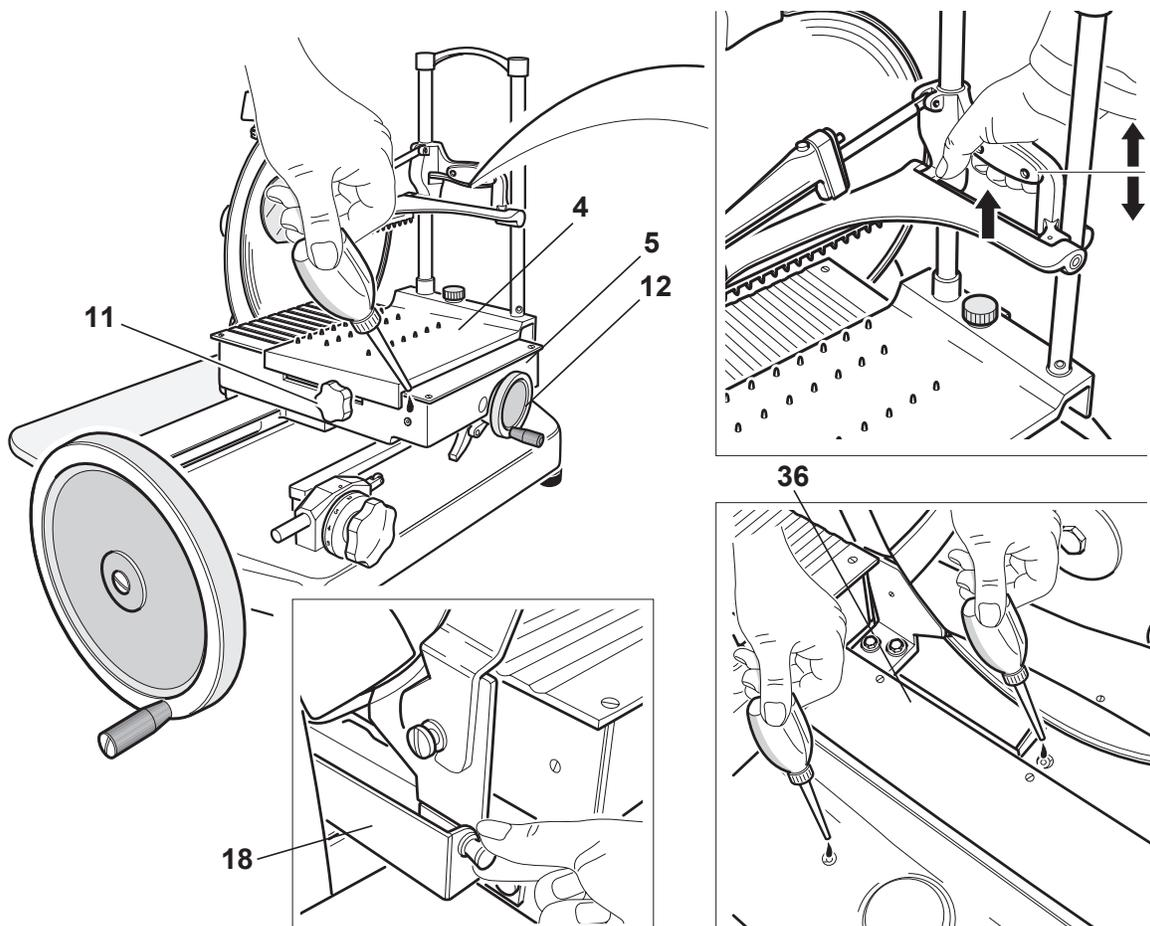

Figure 23-1
1. Once a week, apply 2 to 3 drops of lubricant to the carriage (5) guide rail (Figure 23-1).
2. Use the product holder operating handwheel (12) to slide the carriage (5) back and forth 3 to 4 times.
3. Apply 2 to 3 drops of lubricant to the product holder (4).
4. Turn the product holder operating handle (12) or fast forward knob (11) to move the product holder (4) back and forth 3 to 4 times.
5. Apply 2 to 3 drops of lubricant to the guide rails (36).
6. Slide the guide rails (36) up and back and forth 3 to 4 times.
7. Remove the grease collection pan (18) and oil the nozzle.